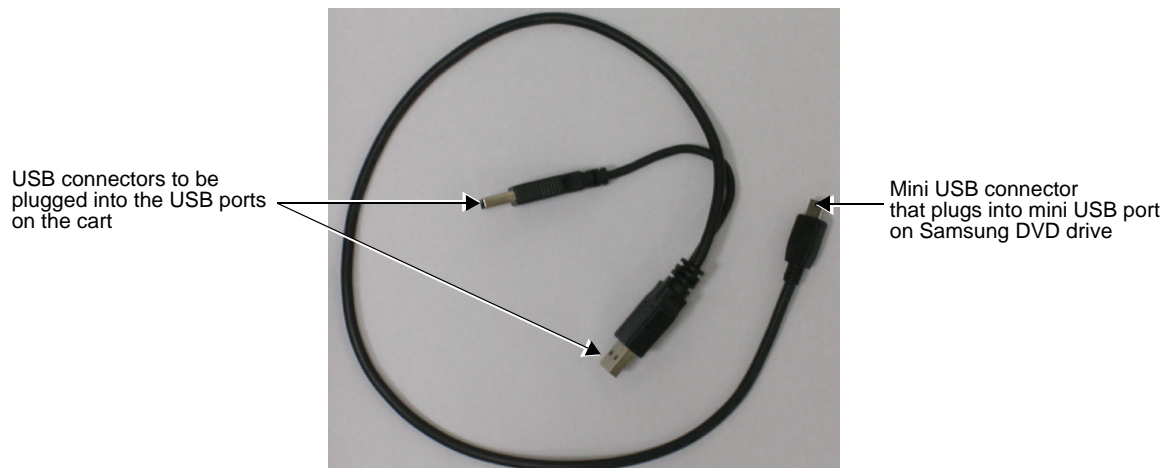
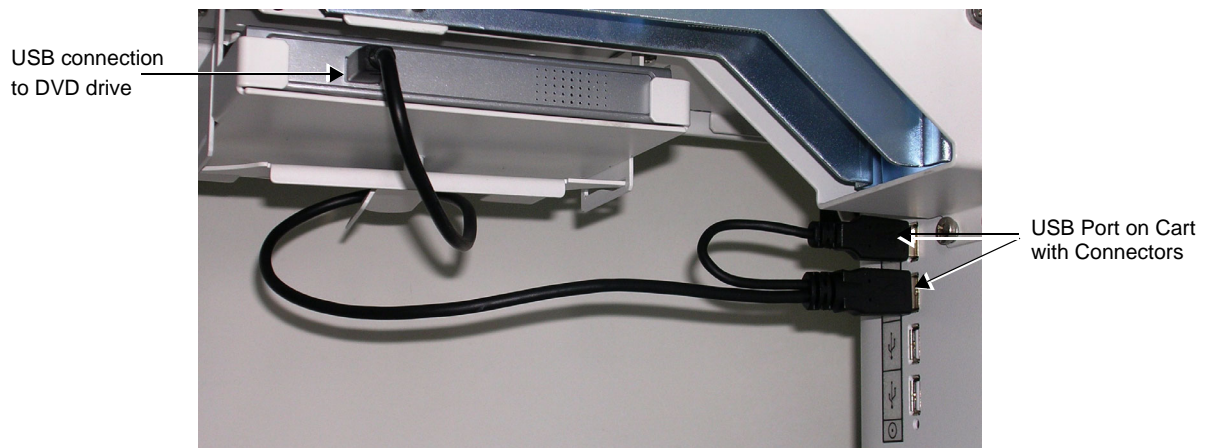
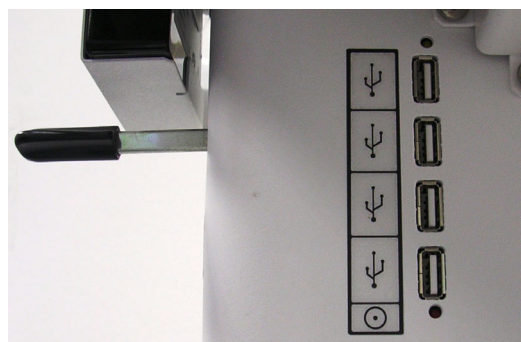

Figure 3-34 Cable for Installation on Vivid i n/ Vivid q N Cart
Figure 3-35 USB Cable Plugged Into the DVD/CD Drive and the Cart's USB Connectors
Figure 3-36 USB ports Located Below the Support Tray of the Vivid i n/ Vivid q N Cart
- 3.) Using the USB cable for the Samsung DVD-R/RW (see Figure 3-34), plug the mini USB connector into the mini USB port located at the rear of the Samsung DVD/CD-RW Drive - see Figure 3-35.
- 4.) Plug the USB connectors into the USB ports located below the upper shelf of the SafeLock Cart - see Figure 3-35 and Figure 3-36.